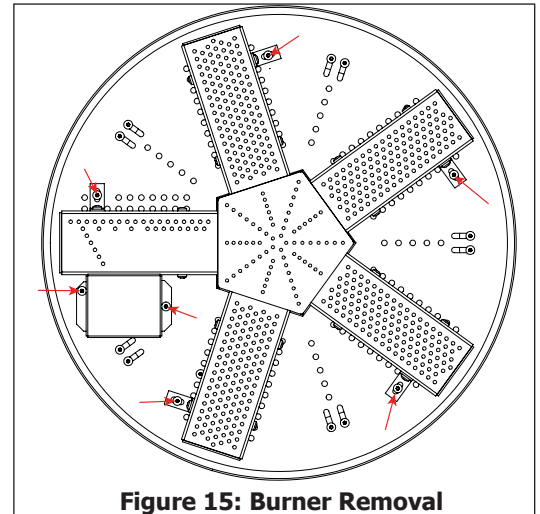

Figure 15: Burner Removal
- 2 Remove five (5) T-20 screws on the side of each burner arm. (see Figure 15)
- 4 Remove three (2) T-20 screws securing the pilot mount on the media tray (see Figure 15).
NOTE: Burner orientation is very important. See figure 15. The burner arm that has less gas ports should be installed next to the pilot.